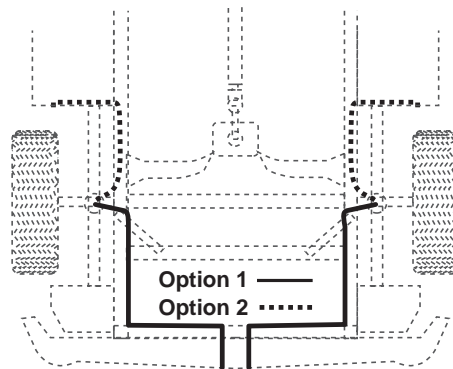

fig. 12
- 6. Route the air line along the frame to the air fitting on the air spring (fig. 12). Keep AT LEAST 6" of clearance between the air line and heat sources, such as the exhaust pipes, muffler, or catalytic converter. Avoid sharp bends and edges. Use the plastic tie straps to secure the air line to fixed, non-moving points along the chassis. Be sure that the tie straps are tight, but do not pinch the air line. Leave at least 2" of slack to allow for any movement that might pull on the air line (fig. 12).